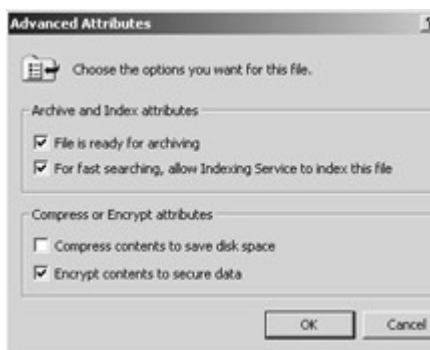

Figure 21-3: The Advanced Attributes window is used to encrypt and compress a file on a Windows 2000 system.
2. Under Attributes, click the Advanced button to display the Advanced Attributes box, as shown in Figure 21-3.